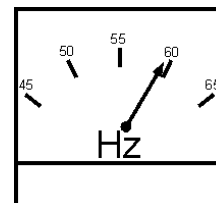

Figure 45. Frequency Meter (Hz)
10. The generator's frequency meter (Figure 45) displays the 60 cycle output frequency in HERTZ.